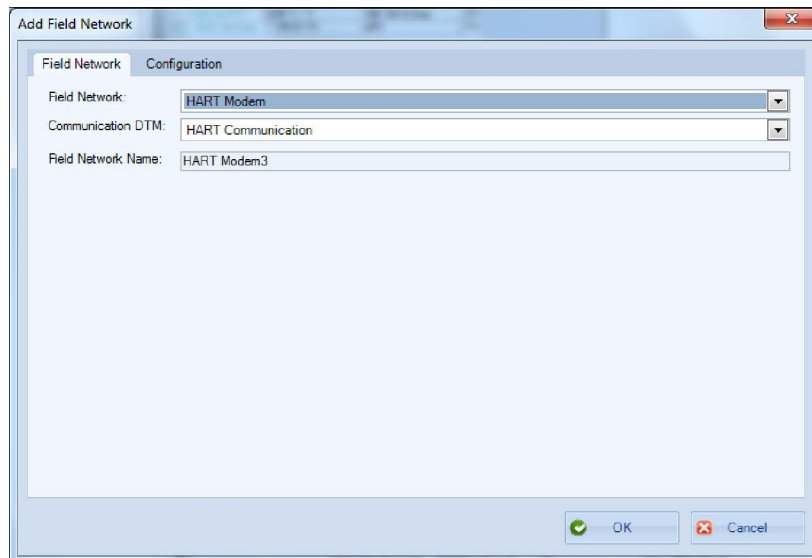

Figure 17 Add Field Network
1. Click **Settings > Field Networks**, click **Add** and Figure 17 appears. Select **HART Modem** and click **OK**.